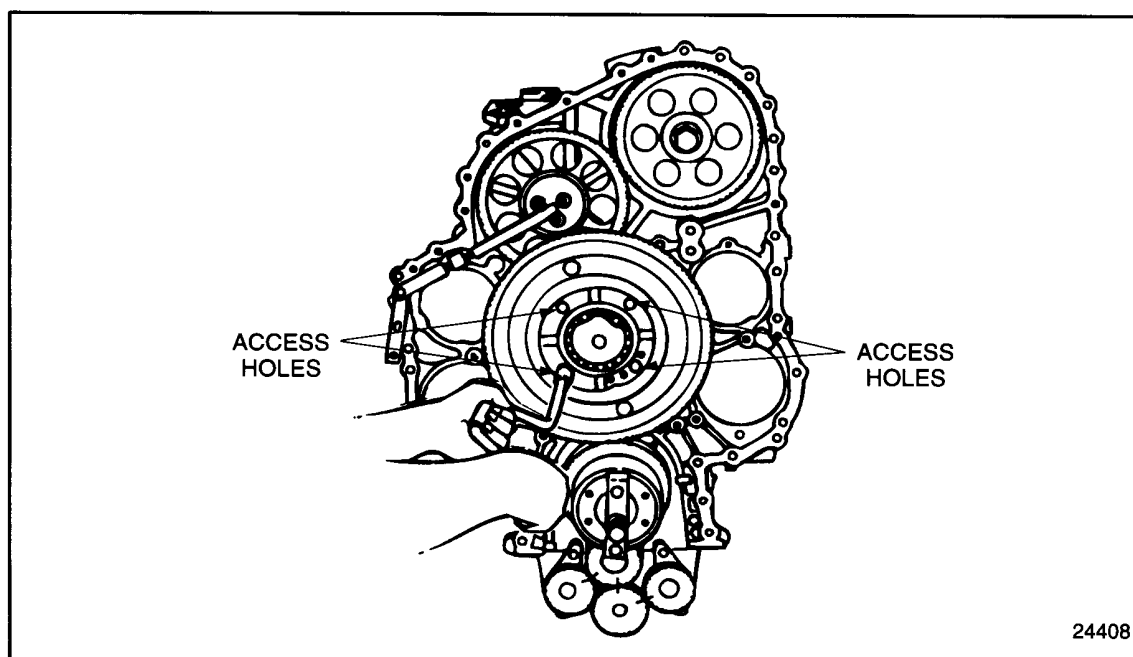

Figure 1-341 Removing Bull Gear and Camshaft Idler Gear and Hub
5. Working through the four access holes in the bull gear and camshaft idler assembly, remove two of the four bolts that secure the bull gear and camshaft idler gear hub to the cylinder block. See Figure 1-341.